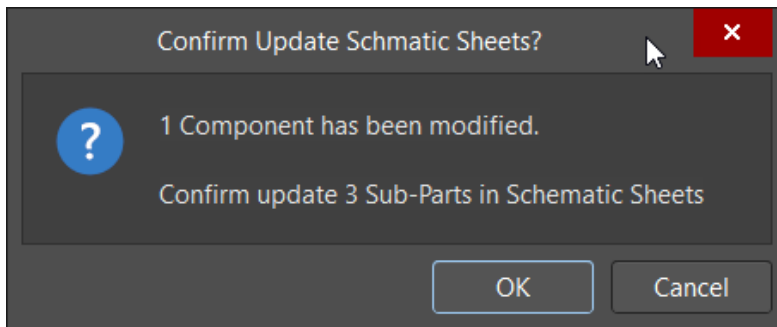

Figure 7. confirm Update Schematic Sheets
17. Click **OK** when prompted to update 3 Sub-Parts in Schematic Sheets, as shown in Figure 7.